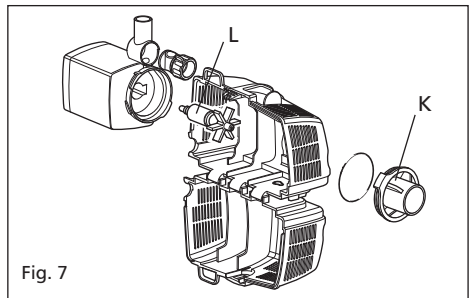

Fig. 7
2. Release the Pump Chamber, Fig 7 (K), by rotating it until the two retaining tongues are clear of the lugs on the Motor Body.
5. Pull the Rotor Assembly out of the Motor Body. See Fig 7 (L).